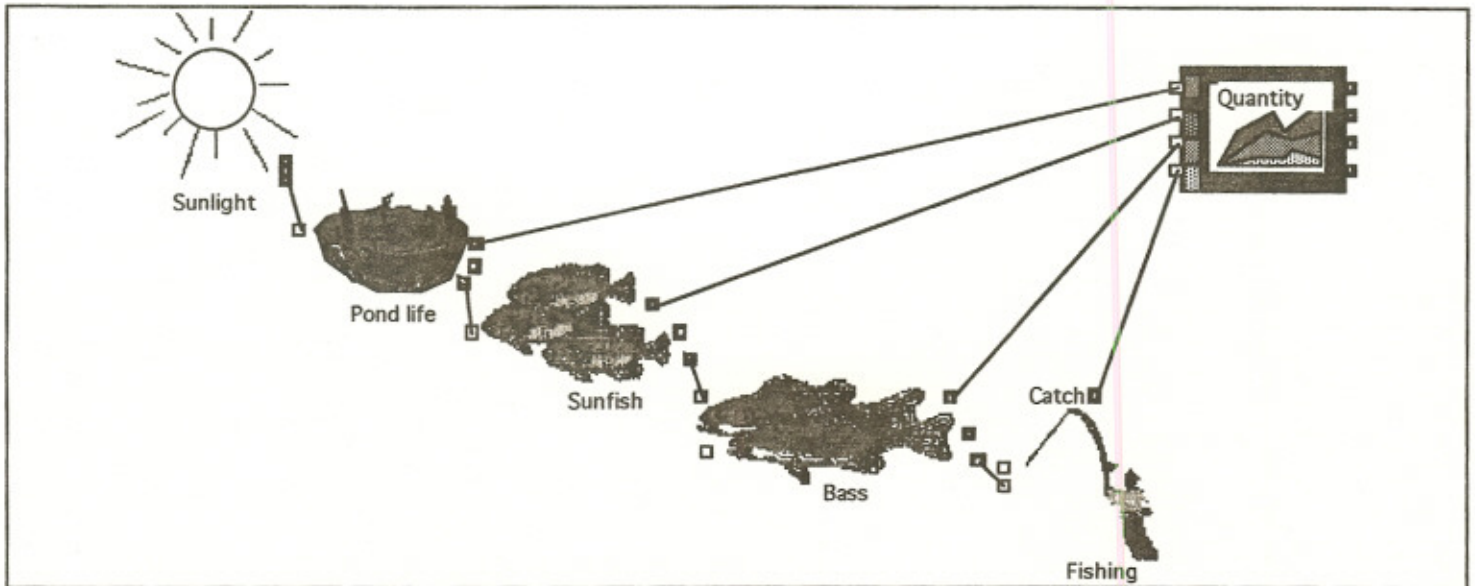
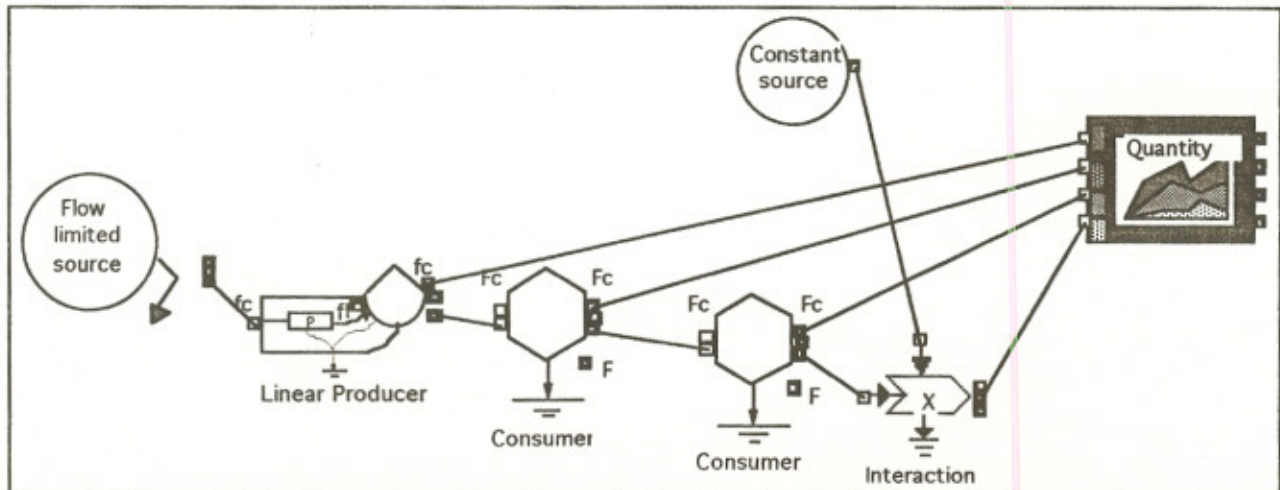

Figure 18. Picture icon ecosystem with fishing.
Figure 22. Model of pond ecosystem using general system symbols.
2. Attach the output connector of the Fishing block to the last input connector on the plotter. Your screen should look like the one in Figure 18.
We have calibrated a pond model for you to experiment with. Open the **Pond, general symbols** model using **File, Open**. As shown in Figure 22, it shows the same system as shown in Figure 18 but with general system symbols.